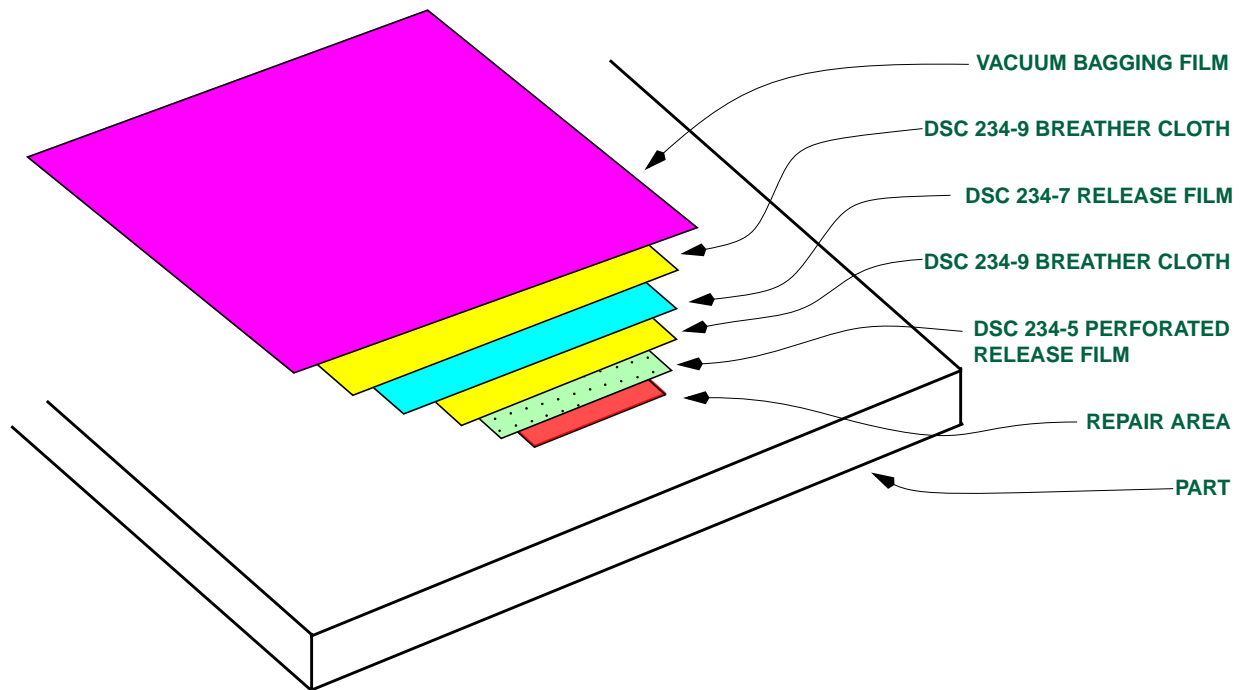
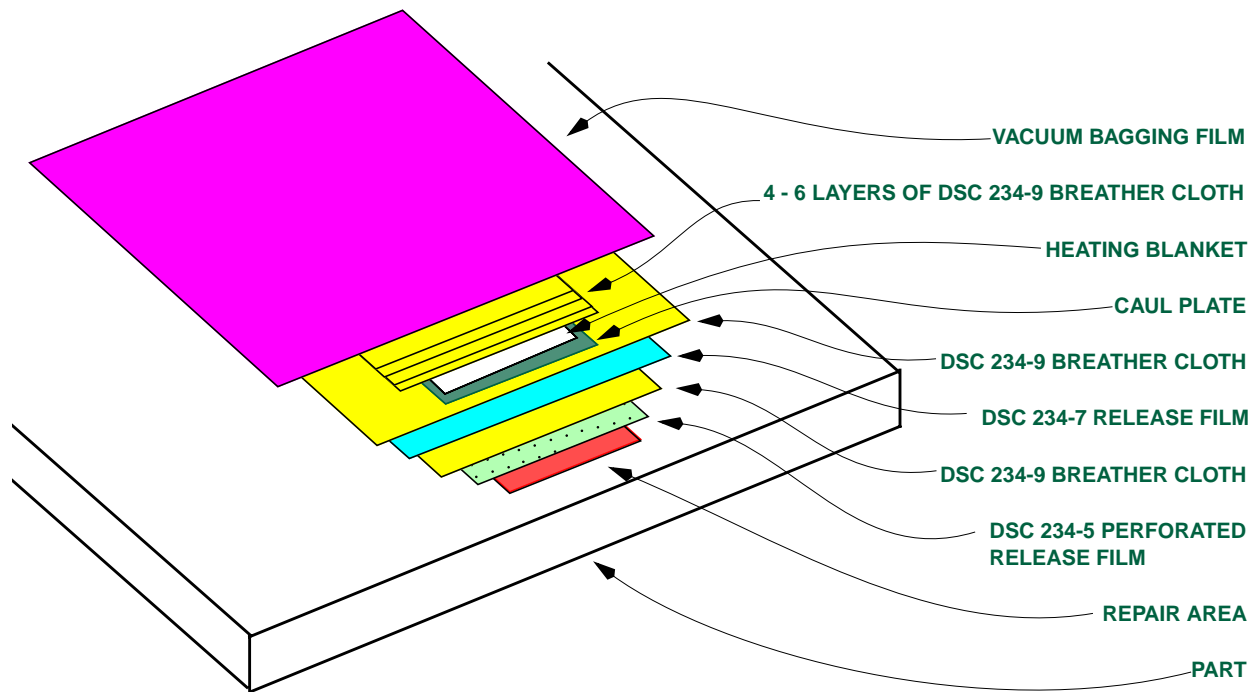

FIGURE 8 - VACUUM BAGGING FOR AUTOCLAVE OR OVEN CURING
FIGURE 9 - VACUUM BAGGING FOR HEAT BLANKET CURING
5.2.7.3.1 Vacuum bag parts as follows (see Figure 8 or Figure 9):
- Step 8. If a heat blanket will be used to cure the repair, place a caul plate, the heat blanket and 4 to 6 layers of breather cloth over the outer layer of breather cloth (see Figure 9). Tape one thermocouple end, wrapped with two layers of breather cloth, to one end of the heat blanket edge.